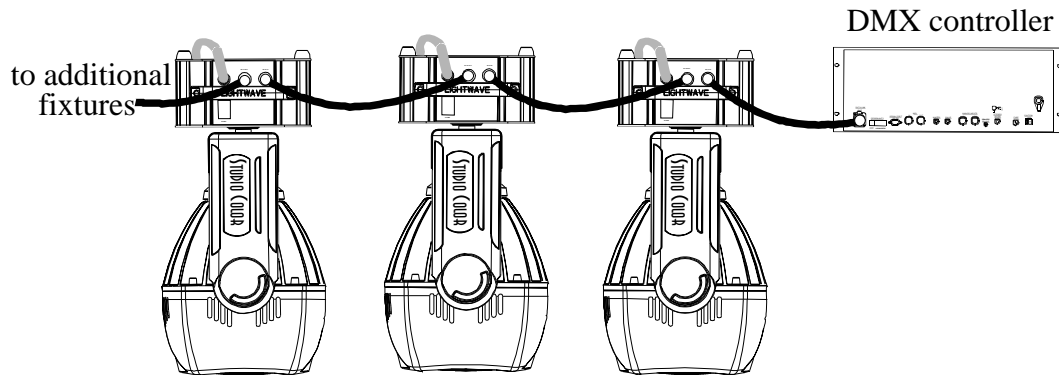

Figure 1.11. Daisy Chaining Fixtures
2. Daisy chain additional fixtures by connecting the Data Out connector to the Data In connectors on subsequent fixtures. Refer to Figure 1.11.